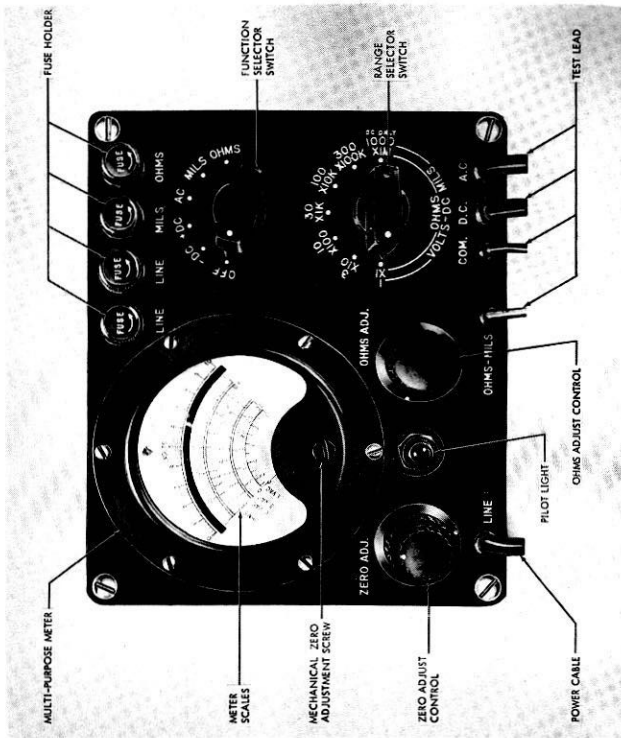

Figure 3-1. Electronic Multimeter AN/USM-116, Front Panel Controls
a. **DESCRIPTION OF CONTROLS.** (See figure 3-1.)
(1) The function selector switch switches in the necessary circuits to make the measurements listed below. It also serves as the ac power switch for the instrument. When it is set in the OFF position both sides of the ac line are disconnected.
With the power off, check to see if meter pointer rests at zero. If pointer does not rest at zero, carefully turn meter mechanical zero adjustment screw (located just below the meter scales, see figure 3-1) with a screwdriver until pointer coincides